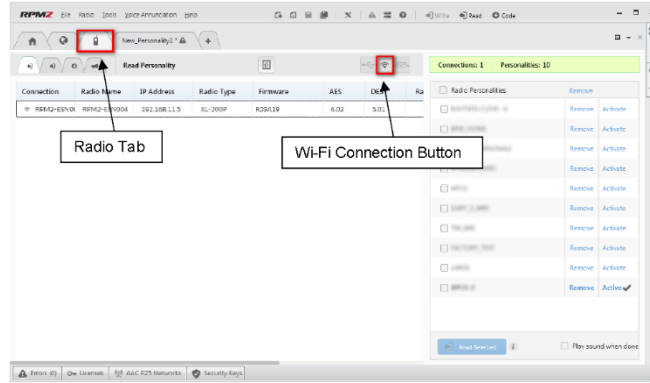

Figure A-6: RPM2 Radio Tab: Wi-Fi
3. Select the Radio tab (Figure A-6) and click the Wi-Fi connection button as shown in Figure A-6.